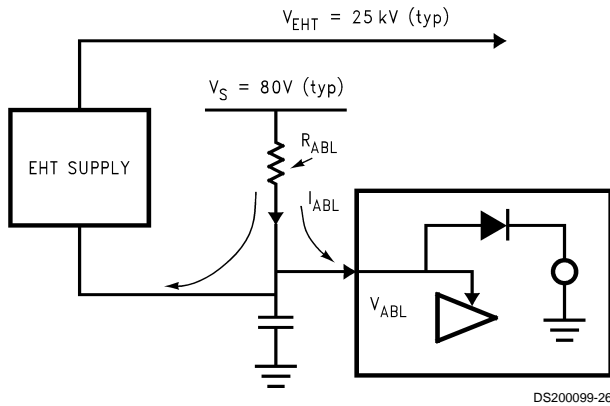

FIGURE 4. ABL
**ABL:** The Auto Beam Limit control reduces the gain of the video amplifiers in response to a control voltage proportional to the CRT beam current. The ABL acts on all three channels in an identical manner. This is required for CRT life and X-ray protection. The beam current limit circuit application is as shown in *Figure 4*: when no current is being drawn by the EHT supply, current flows from the supply rail through the ABL resistor and into the ABL input of the IC. The IC clamps the input voltage to a low impedance voltage source (the 5V supply rail).